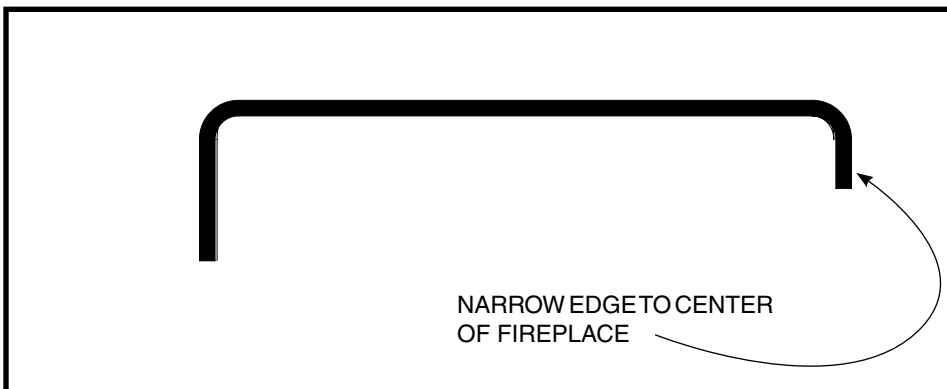

Figure 64: Porcelain strip profile.
13. Install porcelain cover strips that are supplied with the panel set (narrow edge should face the center of the fireplace (Figure 63 and Figure 64).